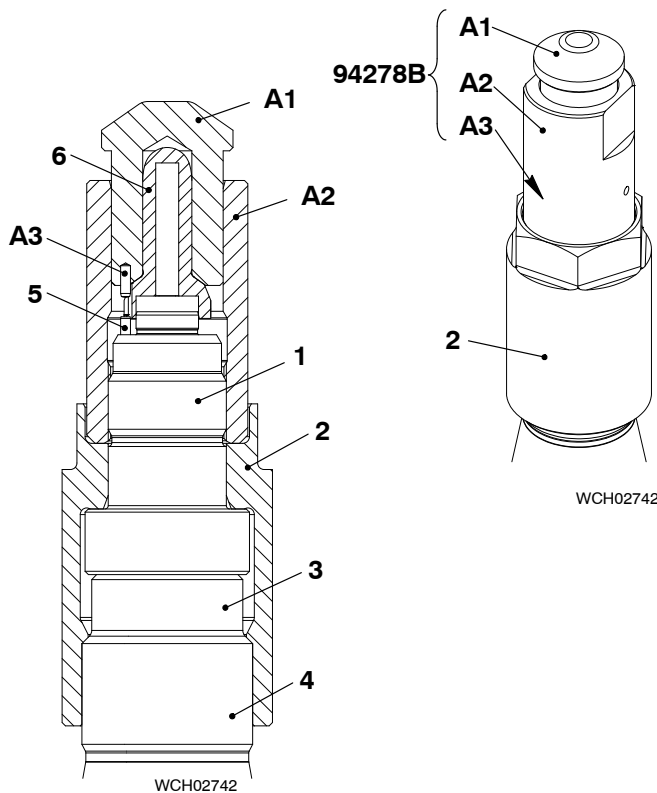
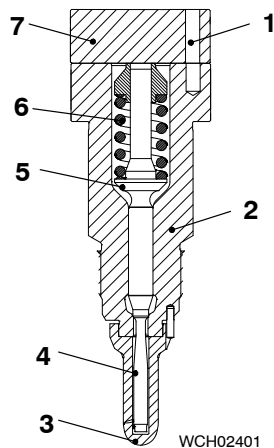

Fig. 5
Fig. 6
- 1) Attach the nozzle body (1, Fig. 5) and coupling nut (2) with the injection valve (4) on the test bench.
- 2) Make sure that the dowel pin (5) is installed.
- 3) Attach the guide bush (A2, 94278B) to the nozzle body (1).
- 4) Put the nozzle tip (6) into the cylinder (A1, 94278B). Align the recess in the nozzle tip with the dowel pin (A3).
- 5) Put the cylinder (A1) and the nozzle tip (6) into the guide bush (A2).
- 6) Turn the cylinder (A1) until the recess in the nozzle tip aligns with the dowel pin (5).
- 9) Remove the coupling nut (2) and the nozzle body (1).
- 10) Use clean diesel oil, or clean kerosene to clean the needle, (5, Fig. 6), compression spring (6), and tappet (5).
- 11) Use a clean, low-pressure air supply to dry the needle, (5) compression spring (6), and tappet (5).
- 12) Put the needle (5) into the nozzle tip (3). Make sure that the needle moves freely.
- 13) Put the tappet (5) and compression spring (6) into the nozzle body (2).
- 14) Attach the intermediate plate (7) to the nozzle body (2). Make sure that dowel pin (1) engages in the hole in the nozzle body.